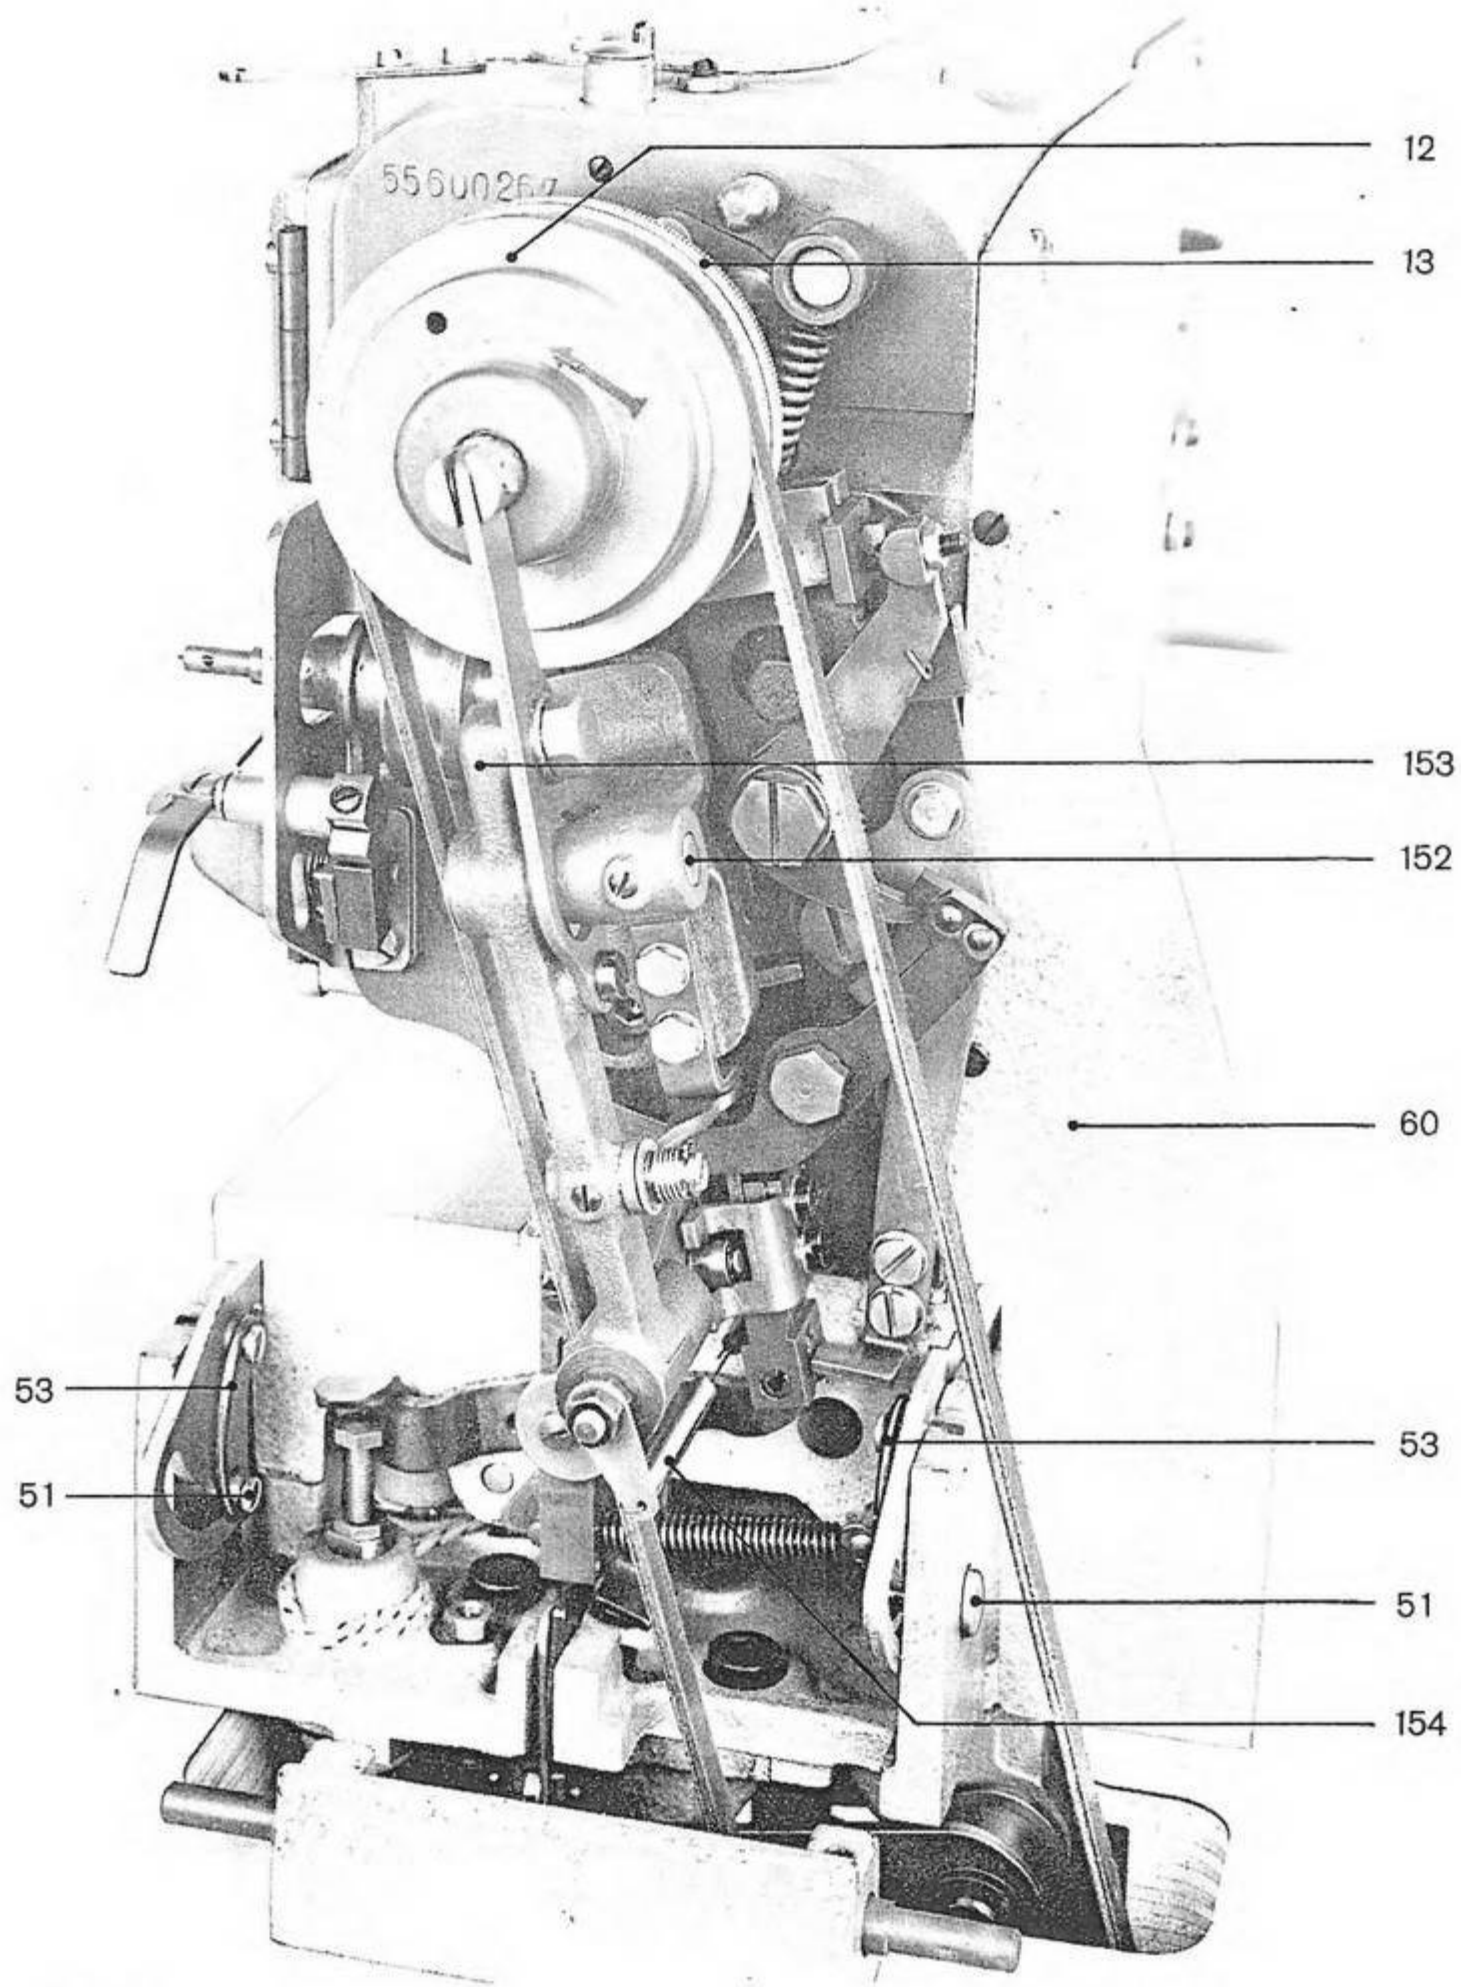

Fig. 14
28. Turn in the available safety screws 51 (fig. 14) and press-on the safety springs 53.